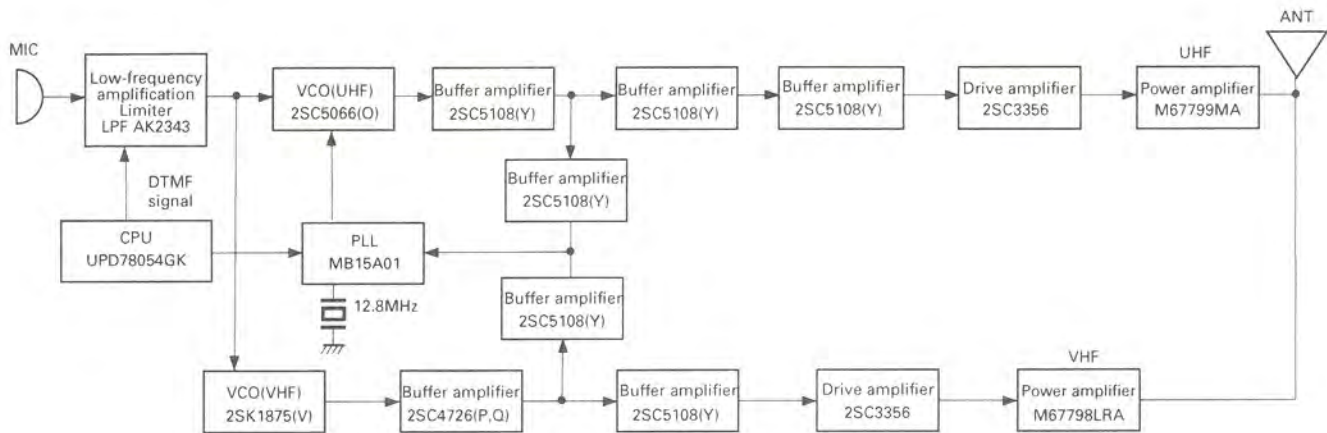

Fig.3 Transmitter system
- The transmitter system is shown in Figure 3.